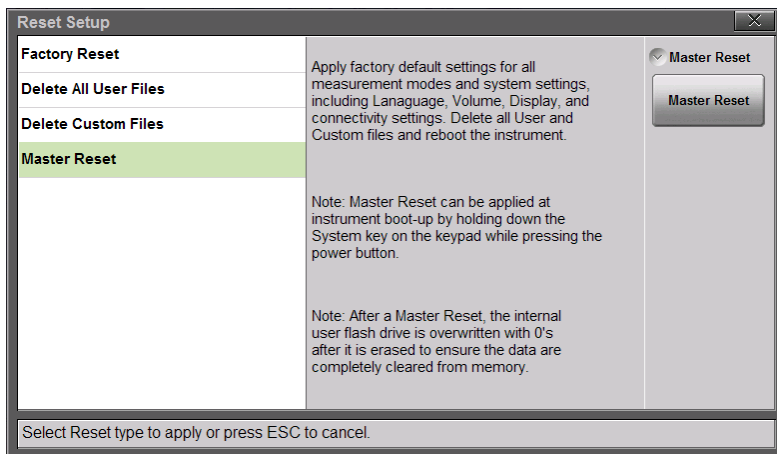

Figure 1-1. Master Reset
1. Press the **Preset** (9) button.
2. Press the Reset drop down submenu then press the Reset button. Select **Master Reset** and read the description on the screen (Figure 1-1).